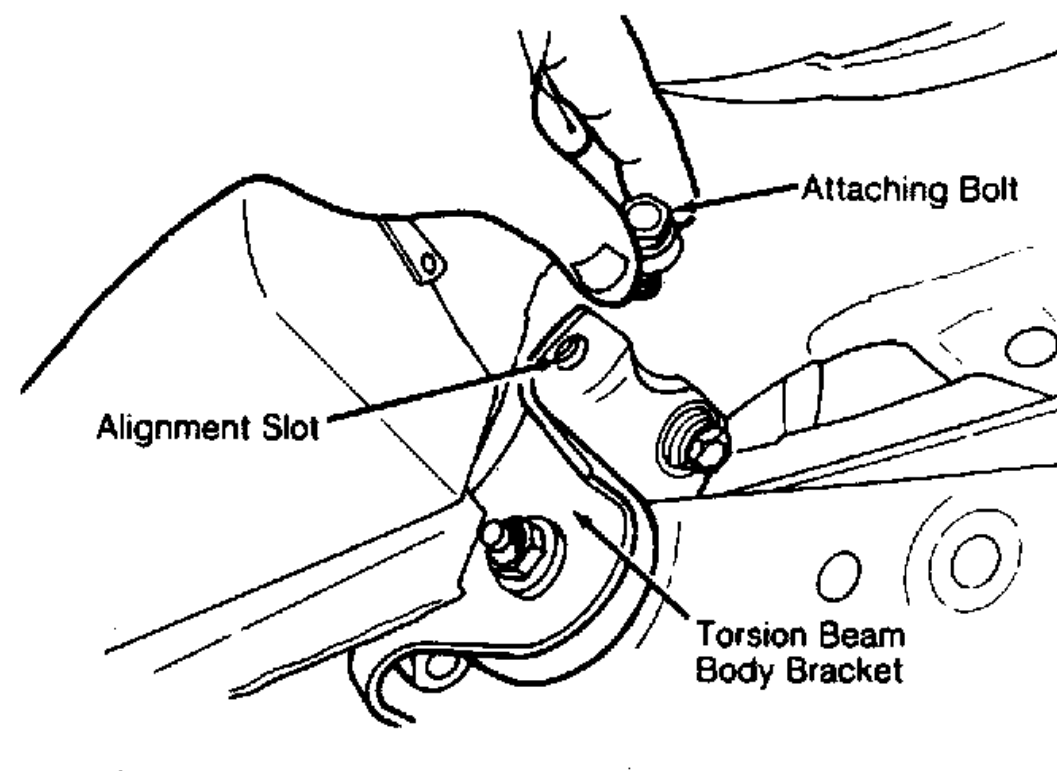

Fig. 5: Removing Torsion Beam Pivot Bolt
3. Remove torsion beam pivot bolts from body brackets. See Fig. 5. Do not loosen or remove torsion beam body brackets if they are not to be replaced. Remove torsion beam.